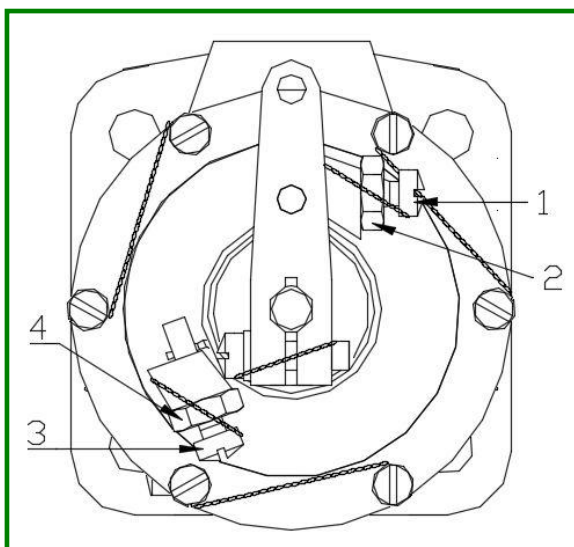

Figure 14
5.6.2. Governor Lever Adjustment (see Figure 14 + 15) Maximum rpm Stop Screws on NON Electrically Controlled Governors
- 5.6.2.1 Remove the safety wire from the speed adjustment screw position 1 (see Figure 14) and loosen the nut to allow movement of the stop screw.